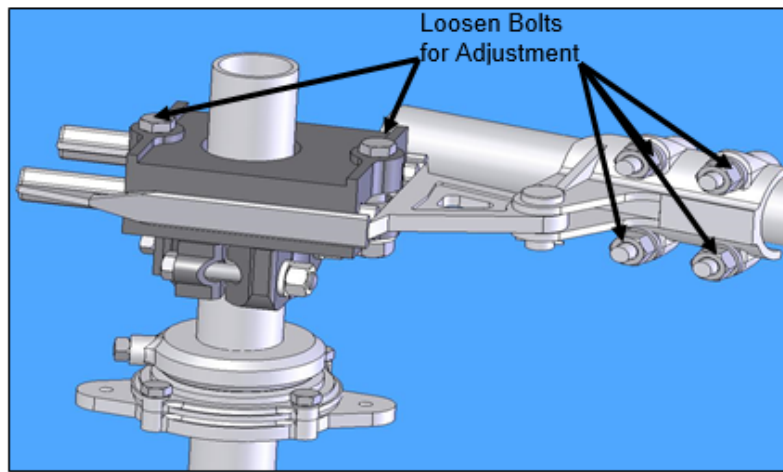

Figure 19: Adjustable Arm Assembly
- 6.4.3.5. Lengthen the adjustable radius arm approximately $\frac{1}{4}$ inch. Allow the pipe clevis to reposition itself the same $\frac{1}{4}$ inch. Refer to **Figure 19**.
- 6.4.4.5. Shorten the adjustable radius arm approximately $\frac{1}{4}$ -inch. Allow the pipe clevis to reposition itself the same $\frac{1}{4}$ inch. Refer to **Figure 19**.